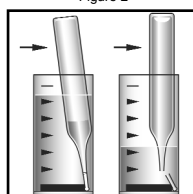

Figure 3
3. Place the CHEMet ampoule in the sample cup. Snap the tip by pressing the ampoule against the side of the cup. The ampoule will fill leaving a small bubble to facilitate mixing (fig 3).